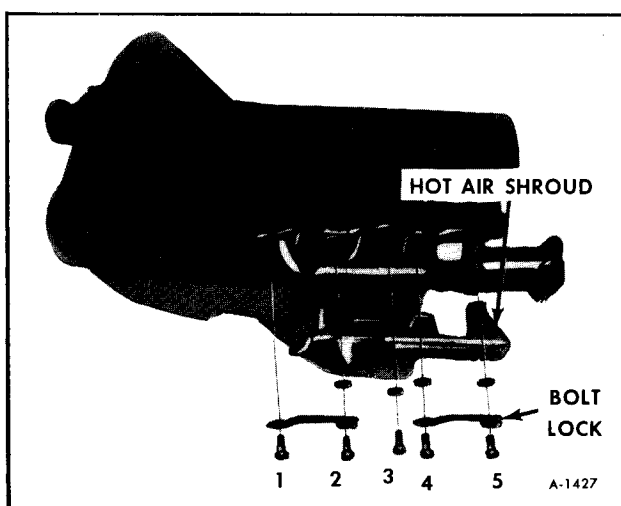

Figure 18—Hot Air Shroud
2. Remove hot air shroud as shown in Figure 18.
stall bolts No. 3 and 4 finger tight. (See figure 18).